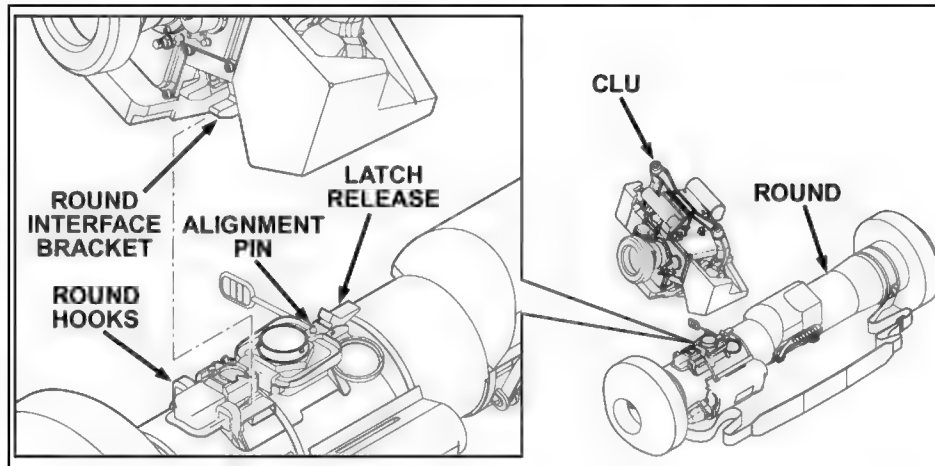

Figure 2-19. Connect the CLU to the round.
(4) Slide the CLU toward the latch release and press down on the CLU to engage the CLU and the round interface connectors. When the latch release snaps into place, the CLU and round are connected (Figure 2-19).
(7) Ensure the CLU and the round are connected correctly by rocking the CLU from side to side before attempting to pick up the Javelin.